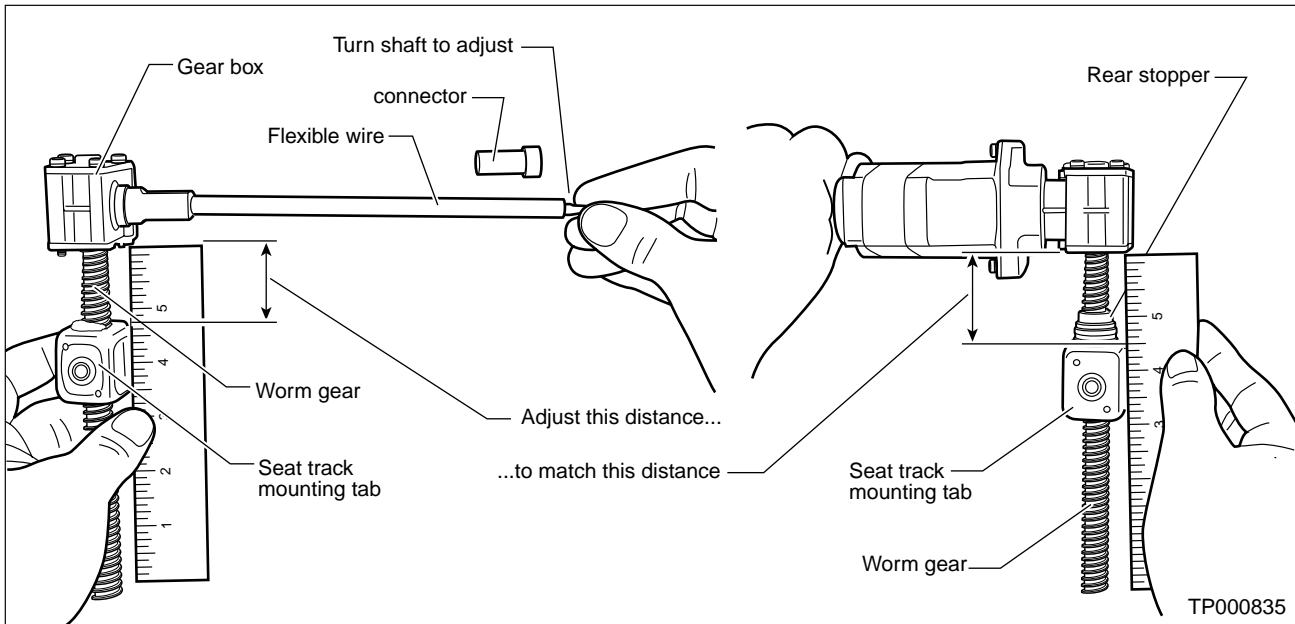

Figure 9
17. Make sure the new seat track mounting tab is touching the rear stopper, with the threaded shaft facing up (see figure 9).
- Measure the distance between the gear case and the mounting tab (see figure 9).
- Measure and adjust the other seat track mounting tab to the same distance (see figure 9).